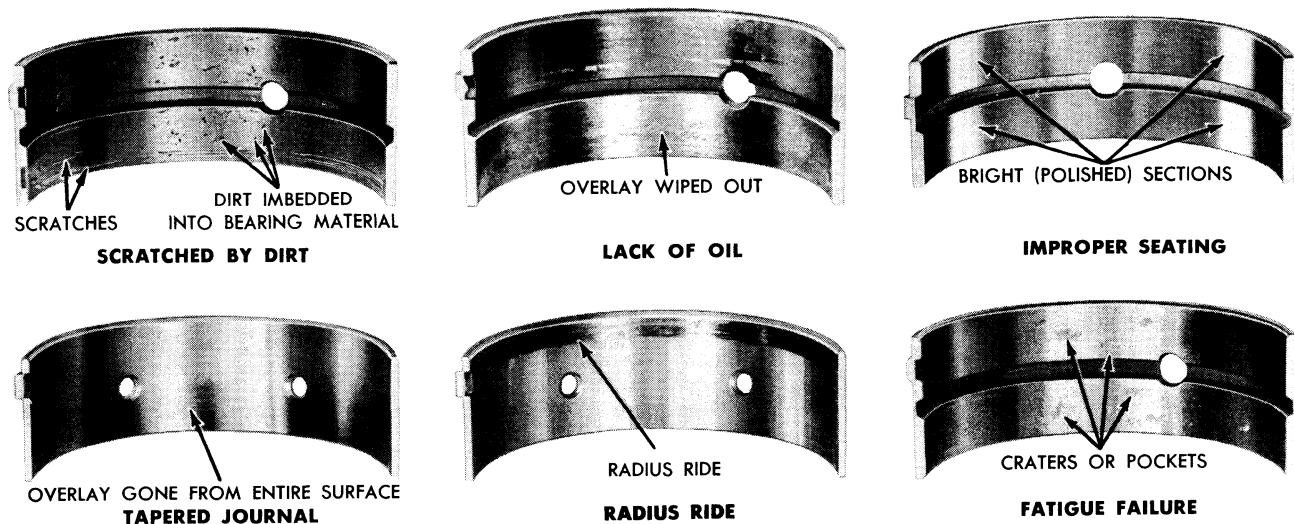

Fig. 28—Bearing Failures—Typical
(1) **INSPECTION.** Check the bearings for any damage or excessive clearance. Examples of bearing failures and their causes are illustrated in fig. 28.